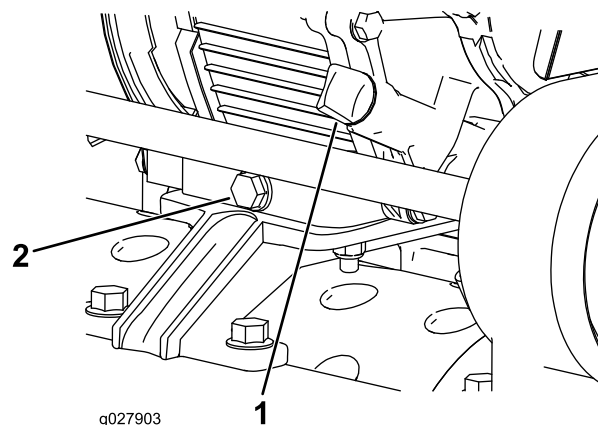

Figure 23
1. Position the mower so that the engine is level and clean around the oil level gauge (Figure 23).
2. Place a drain pan at the rear of machine, under the drain plug (Figure 23).